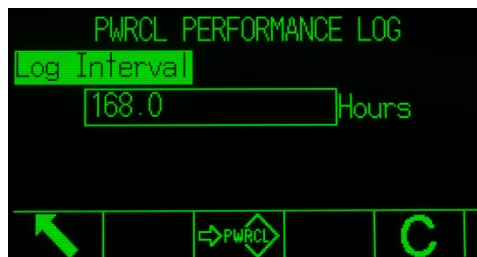

Figure C-10: PWRCL Performance Log Setup Screen
1. The POWERCELL Performance Log does not automatically log records by default. To set up the automatic logging, go to the **Maintenance > Configure/View > PWRCL Performance Log** setup screen (Figure C-10) and enter an appropriate log interval, between 0.1 and 999.9 hours. A typical value for day-to-day operation is 12, but for diagnostic purposes this interval can be much smaller. A manual record can also be triggered using the **PWRCL PERFORMANCE LOG** soffkey .
1. Access the **Maintenance > Configure/View > PWRCL Performance Log** setup screen (Figure C-10).